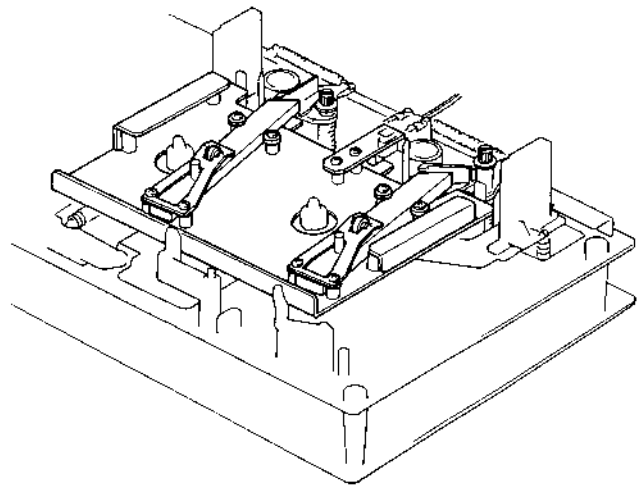

Fig. 4.9
Remove Head Mount Base Ass'y referring to item 2.31. Refer to Figs. 4.9 and 4.10.
(1) Supply Tape Guide Height Adjustment
(2) Take-up Tape Guide Height Adjustment